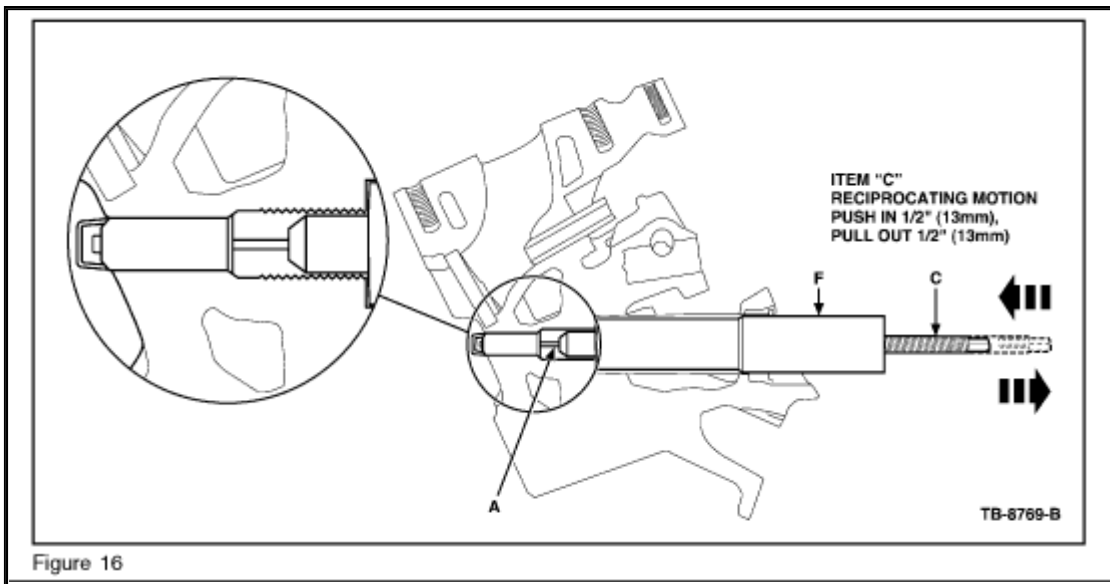

Figure 16
7. Scrub the porcelain inside diameter by moving the threaded rod up and down vigorously. Take care making sure the pin does not disengage the porcelain. (Figure 16).
- Remove the tool assembly. Again flood the porcelain with Motorcraft(R) Metal Brake Parts Cleaner for 2-4 seconds, then blow out the entire spark plug well and porcelain with dry compressed air.